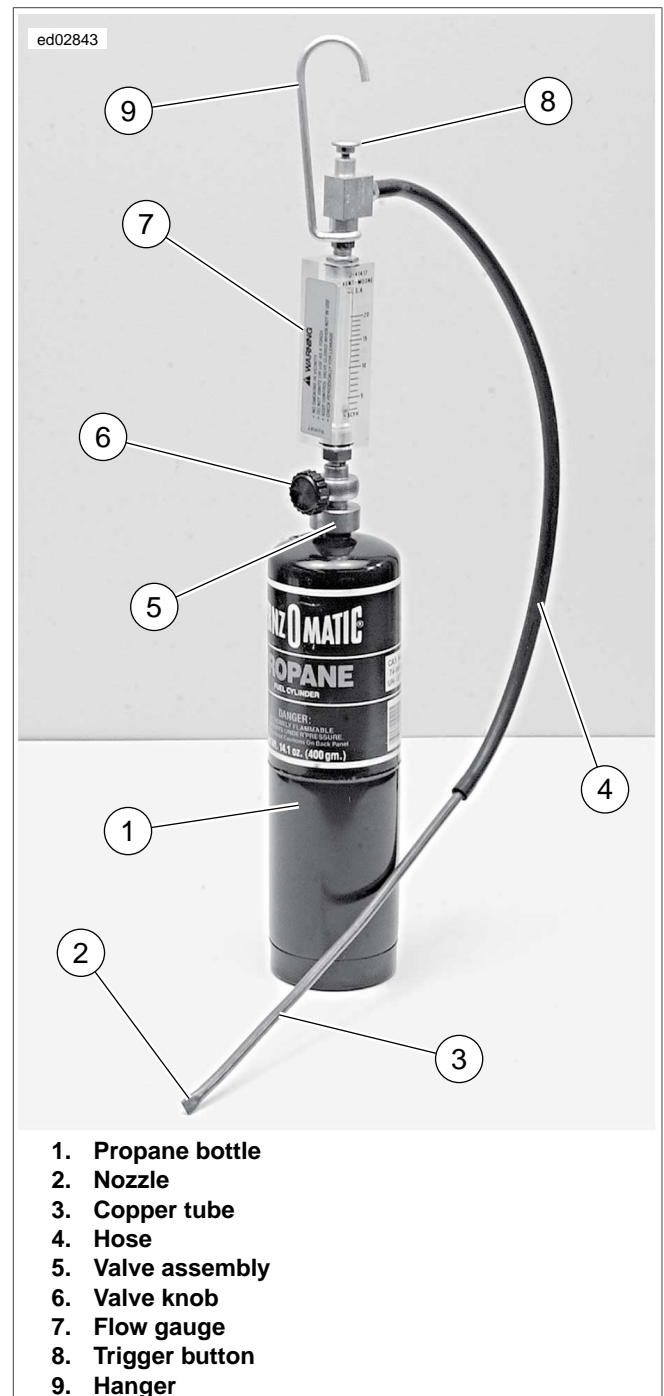

Figure 4-13. Leak Tester
- See Figure 4-13. Make sure valve knob (6) is closed (fully clockwise).
- Screw valve assembly (5) onto propane bottle (1).
- See Figure 4-13. Press and hold trigger button (8).
- Slowly open valve knob (6) until pellet in flow gauge (7) rises to between 5 and 10 SCFH on gauge.